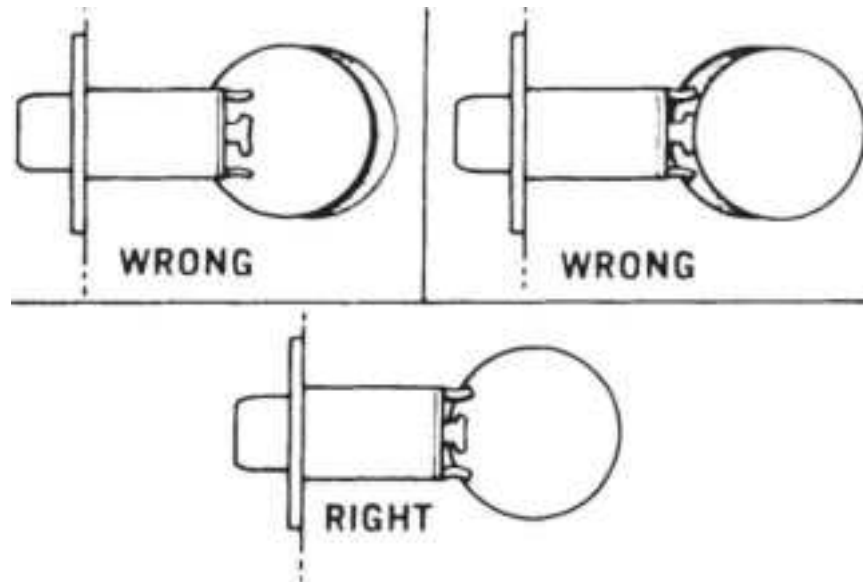

**Figure 13.8** Latchbolt cannot be retracted or extended properly.
***Problem 2: Latchbolt cannot be retracted or extended properly.*** Caused by latchbolt tail and latchbolt retractor not being properly positioned (Fig. 13.8 ). Remove the lock-set from the door. Reinsert the latchbolt in the door. Looking through the hole in the door, the tail should be centered between the top and bottom of the hole. Remove the latchbolt and insert the lockcase. Looking through the latch-bolt hole in the lock face of the door, the latchbolt retractor should be centered in the hole. Adjust the outside rose for proper position. Rebore the holes, if necessary, to line up the retractor and tail.